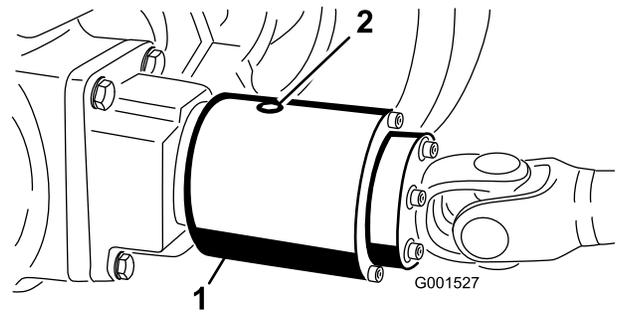

Figure 29
2. Rotate the clutch (Figure 29) so that the check plug (shown in the 12 o'clock position) is positioned at 4 o'clock.